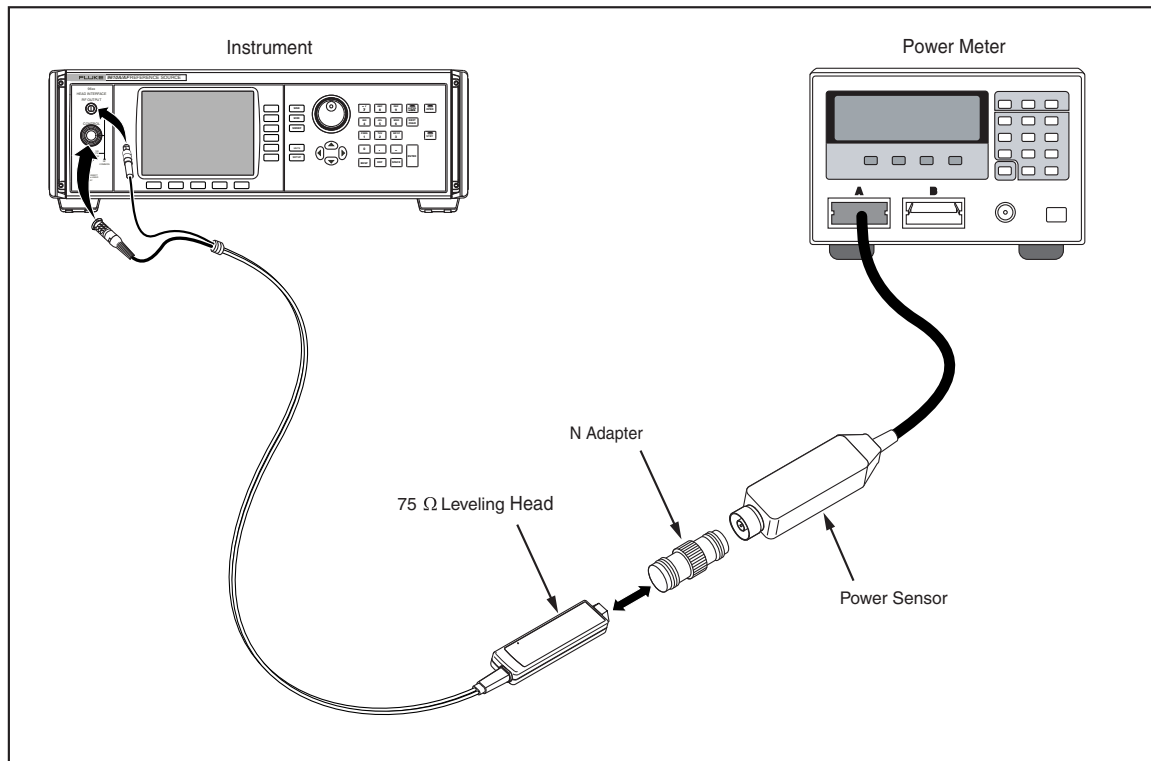

Figure 5-10. Equipment Connections- Level Accuracy Tests (75 Ω), High Frequency Points
9. Connect the 75 Ω Leveling Head to the 75 Ω power sensor via a precision 75 Ω Type-N female-to-female adapter. See Figure 5-10 for equipment connections.